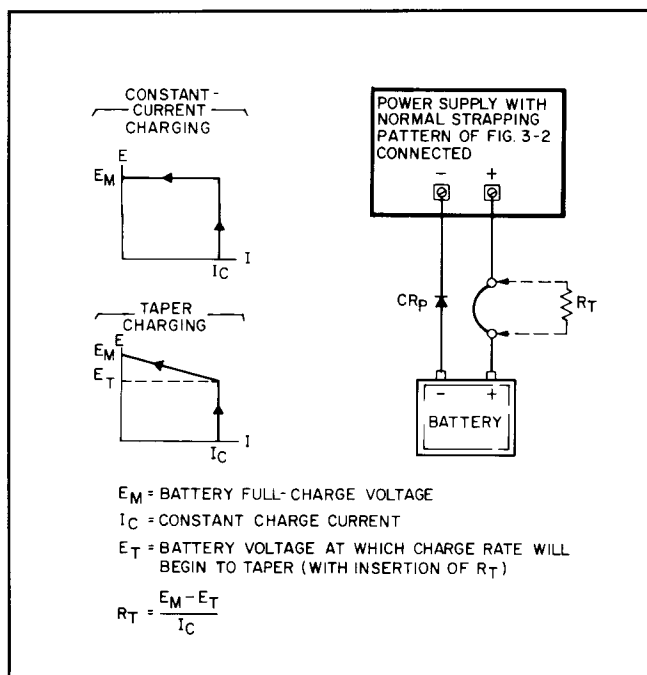

Figure 3-14. Battery Charging
Any time these supplies are used to charge a battery, be sure to install a protective diode CR_p in series with the battery as shown in Figure 3-14 to prevent the battery from discharging into the supply if the supply is turned off. Extensive damage to the supply could result if this diode were omitted.
- b. Connect a short circuit across the output terminals and rotate the VOLTAGE control fully clockwise (CW).
- e. Adjust the VOLTAGE control for an output voltage 0.7 volts greater than the desired full charge voltage. (The added 0.7 volts compensates for the drop across CR_p .) The supply may then be connected to the battery terminals, positive to positive and negative to negative as shown in Figure 3-14 (omit R_T).
3-82 Taper Charge. When charging lead-acid cells, many manufacturers recommend that the charging current be reduced as the charge nears completion. This can be accomplished by inserting a small resistance (R_T) in series with one of the load leads from the supply to the battery. (See Figure 3-14.) This resistor alters the normally rectangular charging plot in such a manner as to provide a taper charge for the last portion of the charge. The proper value for this resistor is the difference between the full charge voltage and the voltage at which the tapering is to start, divided by the initial charging current. Set the initial charging rate and full charge voltage as instructed in paragraph 3-81.